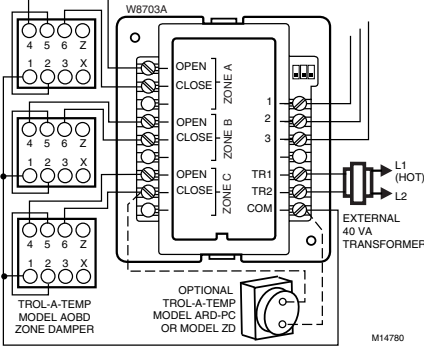

Fig. 3. Connecting Damper Interface Module to Zone Damper wiring diagram.
1. Connect the 24V damper motor actuator to the zone terminal block for each respective zone (Fig. 3).